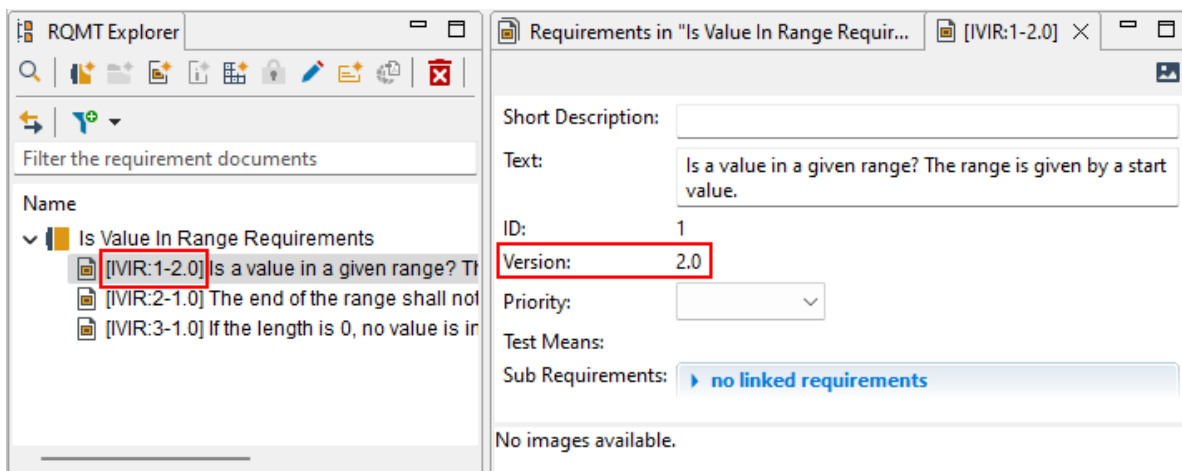

Figure 6.110: The first requirement has the version number 2.0
- After committing, the ID of the requirement will be updated to display the new version (see figure 6.110).